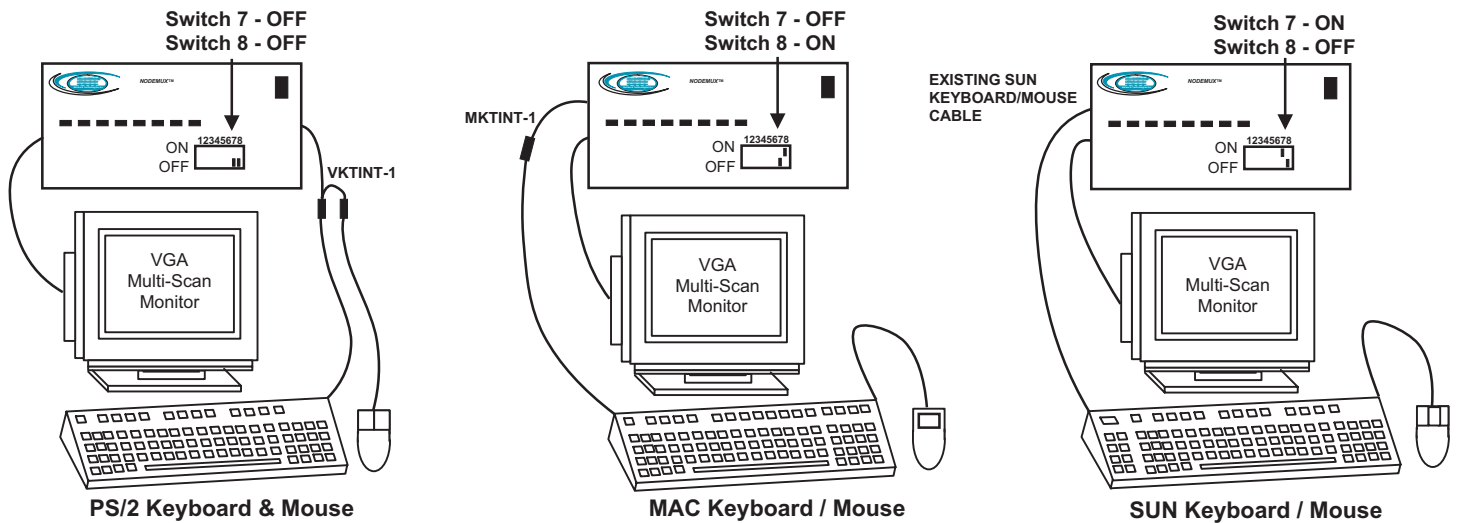

Figure 3- Dip-switch configuration
2. Configure the dip-switches for the type of keyboard and mouse being used (see Fig. 3). The dip-switches on the front panel must be configured for the platform of the keyboard/mouse that will be used to operate the NODEMUX. **This action must be completed prior to powering up the ST-xU.**